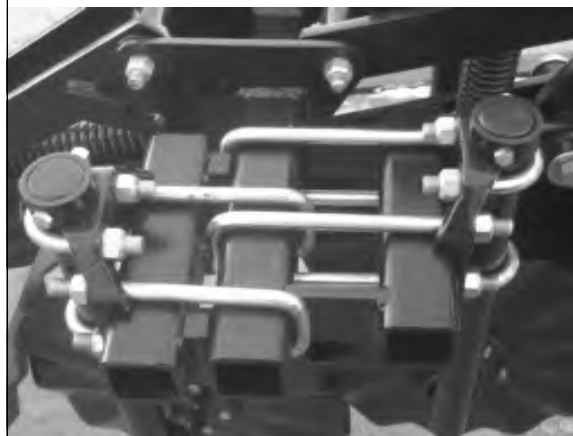

FIG. 2-8
- A. Two long offset clamp tubes (63815) on front side of both cross bars (both sides). Two short offset clamp tubes (63814) on rear side of both cross bars (both sides). Rear Coulters can be facing inward or outward. See FIG. 2-8 and FIG. 2-9.